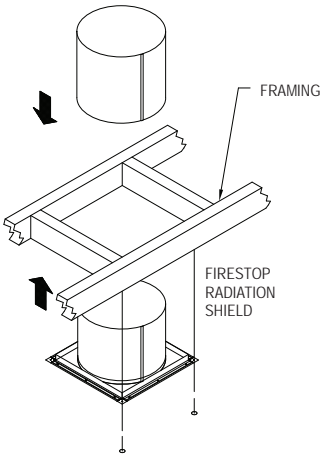

Figure 7
**Note:** a Firestop Radiation Shield is not installed where the chimney penetrates through the roof. Instead, you will need to install Roof Radiation Shields (required for 18"-24" diameters only - see **Step 7**) around the roof joist members. The Firestop Radiation Shield is installed on the underside of the ceiling/floor framing, with the cylindrical "tube" portion of the shield pointing upward (**Fig 7**). Use a minimum of either (1) 8 penny nail or (1) 1-1/4" wood screws per corner. Refer to Table 2 for framing requirements.